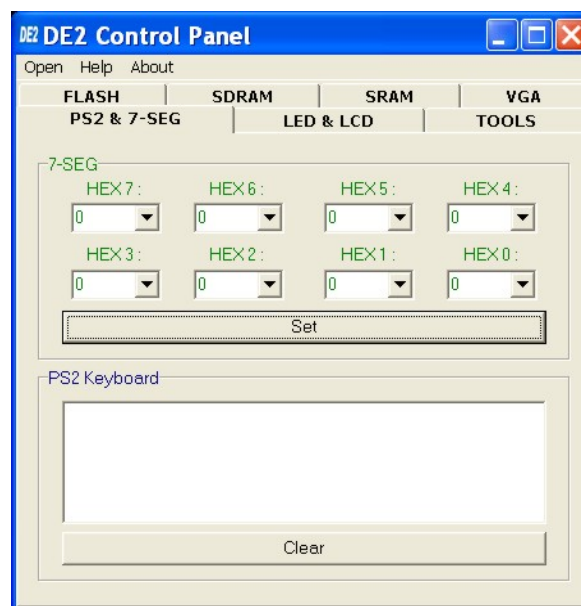

Figure 3.2. The DE2 Control Panel.
5. Start the executable *DE2_control_panel.exe* on the host computer. The Control Panel user interface shown in Figure 3.2 will appear.
In the window shown in Figure 3.2, the values to be displayed by the 7-segment displays (which are named *HEX7-0*) can be entered into the corresponding boxes and displayed by pressing the **Set** button. A keyboard connected to the PS/2 port can be used to type text that will be displayed on the LCD display.